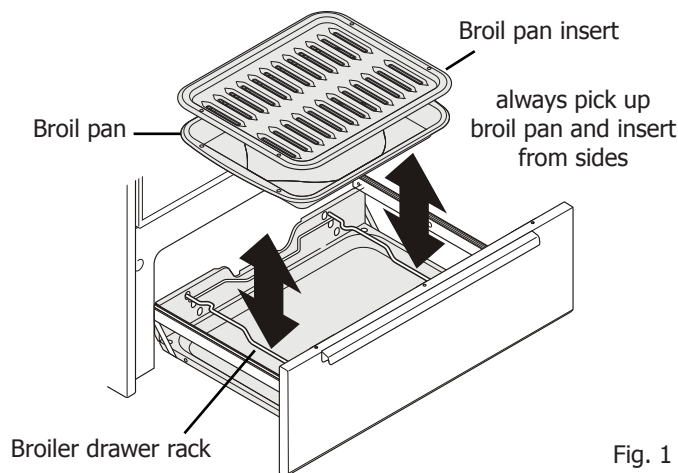

Fig. 1
2. Remove broiler pan and insert (See Fig. 1).
5. Place insert on broiler pan and place prepared food on insert. Place broiler pan and insert with food into broiler on drawer rack as shown (See Fig. 1). Slide broiler drawer completely into range.